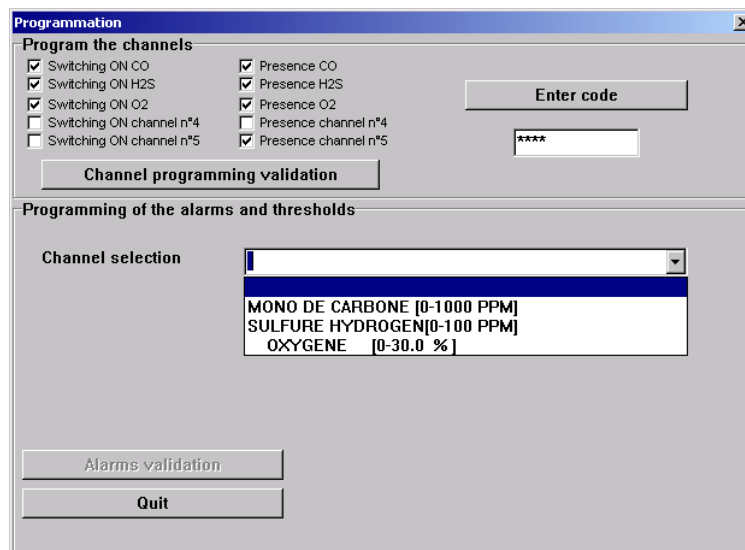

Figure 39 - Program menu screen
Select the channel from the dropdown list (*Channel selection* - Figure 39):
- Access is password protected. Select the channel fitted with the catalytic sensor (*Channel selection*, see Figure 39).